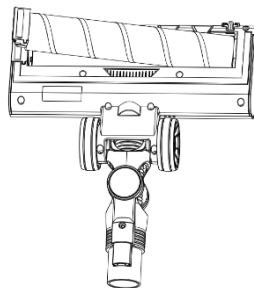

Figure 23
2. Take out the roller brush, and clean the blockage of the adhesive contained in the hose from the bottom suction of the brush (Figure 23).